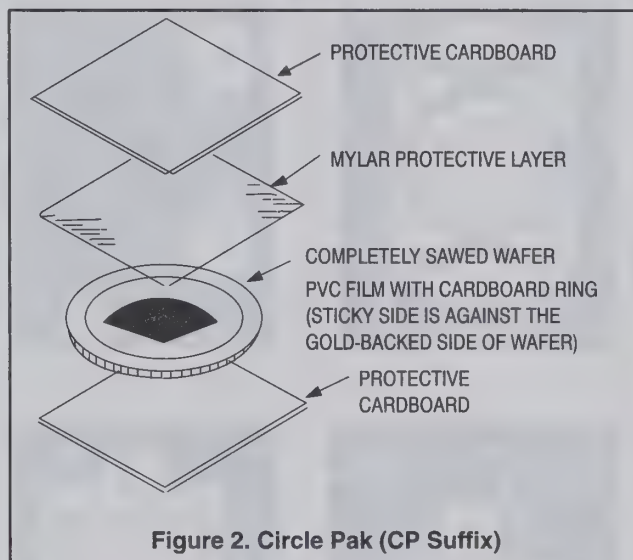

Figure 2. Circle Pak (CP Suffix)
**Circle Pak (CP Suffix)** (See Figure 2) — The wafer is placed on a sticky film before being sawed. Each wafer is completely sawed through with the back side against the PVC film. The die stick to the PVC film and maintain exact wafer orientation and spacing. This packaging method also offers the convenience of storage with original orientation and spacing even after a portion of the wafer is used. The evacuated plastic bag is thermally sealed holding the contents securely with no die movement. Die can be removed from the sticky film by a sharp ejector-pin pushing a die up and a vacuum needle manually picking it up. This package can also be handled by an automatic die loader with some minor adjustments. To order this package, the suffix CP must appear with the part number.